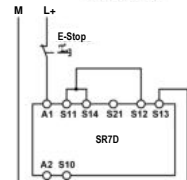
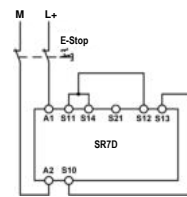
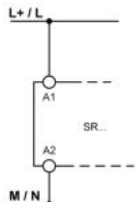

Fig. 10:
Fig. 11:
Fig. 16:
- For applications according to Fig. 10 and Fig. 11 it must be ensured that the reference potential of the signal generator and the SR7D is the same.
Connect the power supply to A1 and A2 (Fig. 16 or Fig. 10 or Fig. 11).